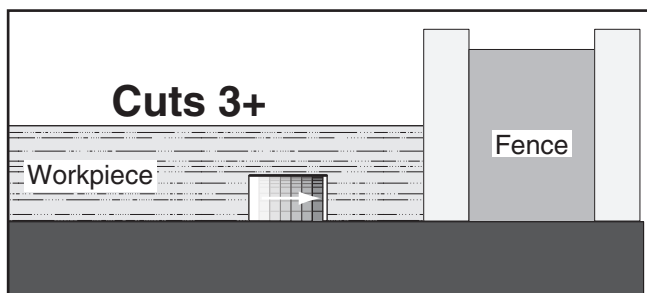

Figure 63. Additional single-blade dado cuts.
8. Make additional cuts (see **Figure 63**) in center of dado to clear out necessary material. Dado is complete when channel is completely cleared out.